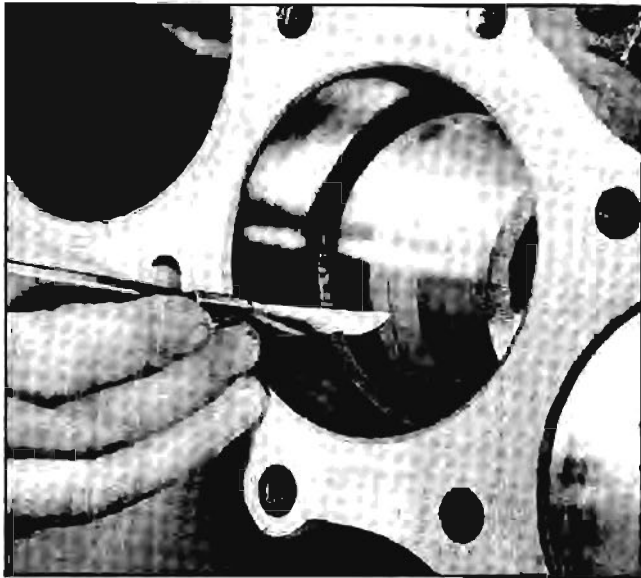

Fig. 6-111 Checking Ring Gap
3. Measure gap between ends of compression rings with feeler gauge (Fig. 6-111). Gaps should be .010"-.020".